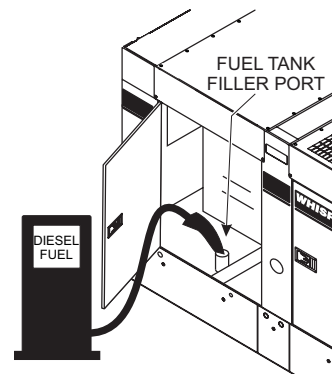

Figure 35. Fueling the Generator
2. Open cabinet doors on the “right side” of the generator (from the generator control panel position). Remove the fuel cap and fill the tank (Figure 35).